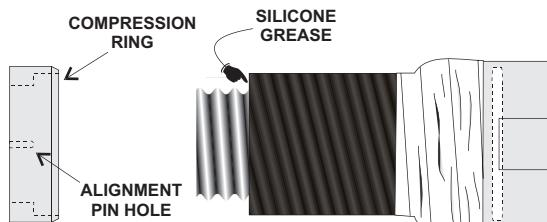

FIGURE 2
Step 3) Slip the compression ring over the waveguide until the recessed edge butts up against the jacket. Apply a small amount of silicone grease to the edge of the jacket to aid in installing the compression ring. Alignment pin hole openings must face away from the waveguide (as shown in Figures 2 & 3).